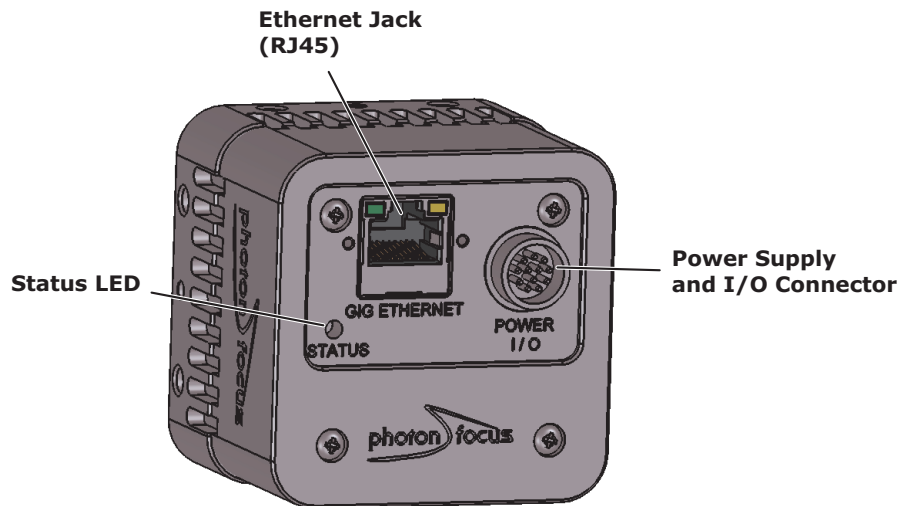

Figure 2.1: Rear view of a Photonfocus GigE camera with power supply and I/O connector, Ethernet jack (RJ45) and status LED
4. Connect the power supply to the camera (see Fig. 2.1).